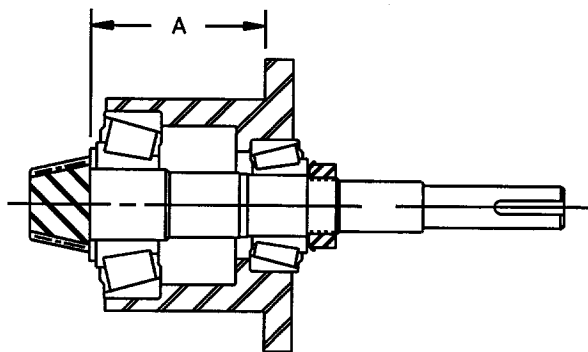

Figure 27: Pinion Cartridge Measurement
- A = Assembled cartridge height measurement (Figures 27 and 33, pages 69 and 76)